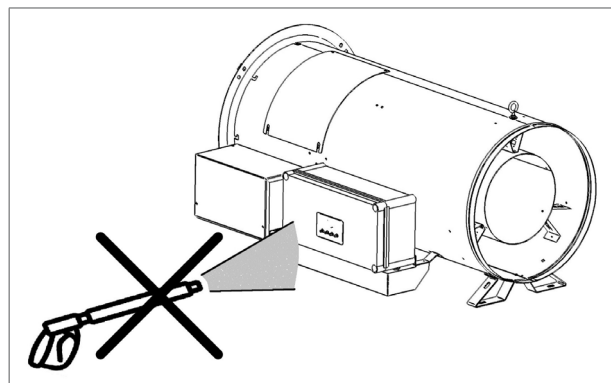

Figure 20 - Never spray on the electronics or the housing of the gas block
3. Never spray on the electronics or the housing of the gas block (figure 20).